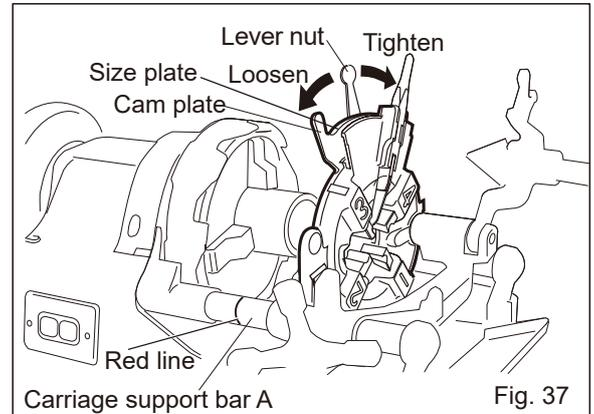

Fig. 37
- If you start cutting a thread with the red line on the Carriage support bar A hidden from view, the Carriage could knock into the Base, which could lead to damage or possible injury. (Fig. 37)